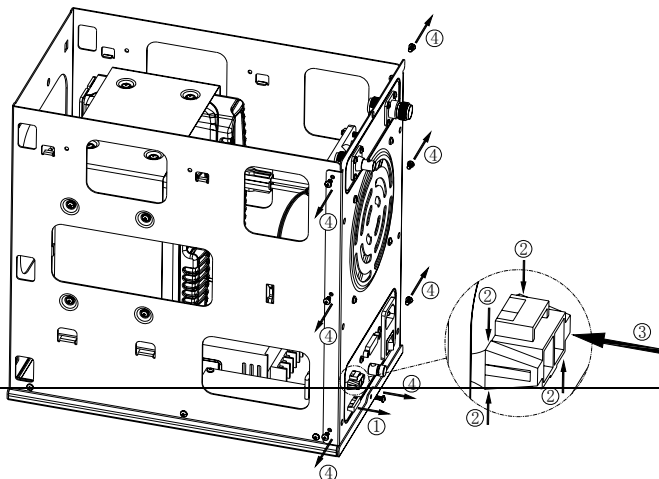

Figure 5
1. Pull out the ATO fuse ①, shown as Figure 5.
2. Press the spring latch ② located on the two edges of the DC socket, and push the DC socket into the housing to separate the socket from the rear plate ③, shown as Figure 5.
3. Remove the seven screws (M3.0X6.0) ④ that secure the rear plate using a screwdriver, shown as Figure 5.